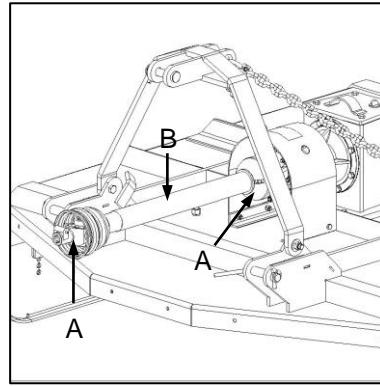

Fig. 5
- ✓ Apply grease to the universal joints (Fig. 5-A) and telescopic tubes (Fig. 5-B) of the PTO shaft.
- ✓ Ghries die kruiskoppelings (Fig. 5-A) en teleskopiese buise (Fig. 5-B) van die kragaftakkeras.